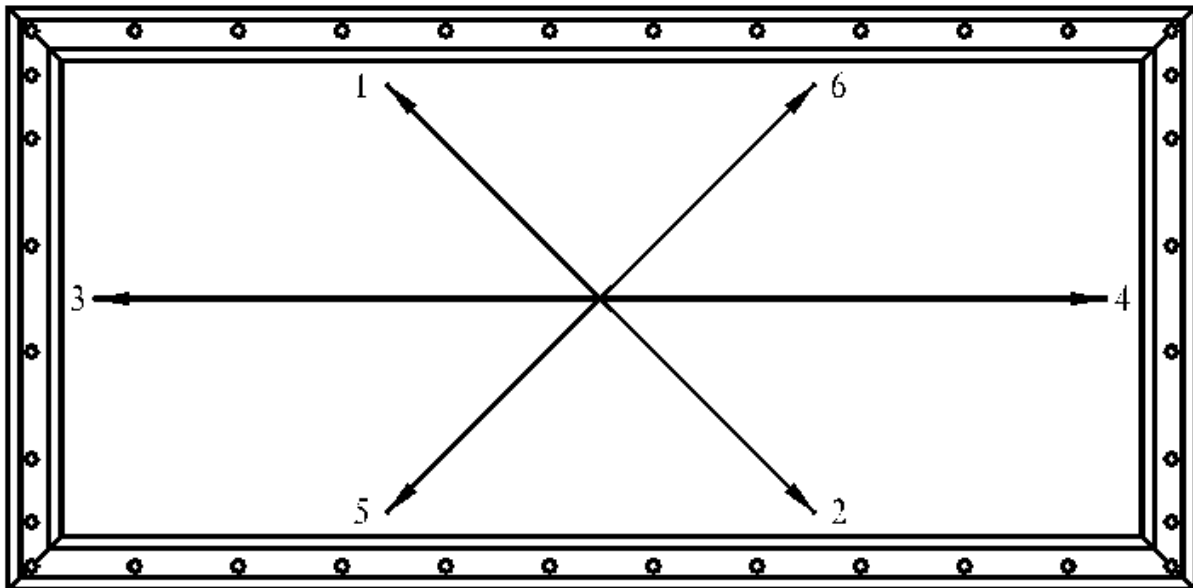

Figure 1
7. Bolts should be tightened to the torque specified below. When using Nord-Lock washers, two Nord-Lock washers are required per bolt. Salco's recommendation is to tighten the bolts in a pattern similar to Figure 1. **DO NOT TIGHTEN IN A CONTINUAL FASHION!** This will create an uneven seal. Customers may develop their own pattern provided they have performed testing to ensure that an even seal has been achieved.